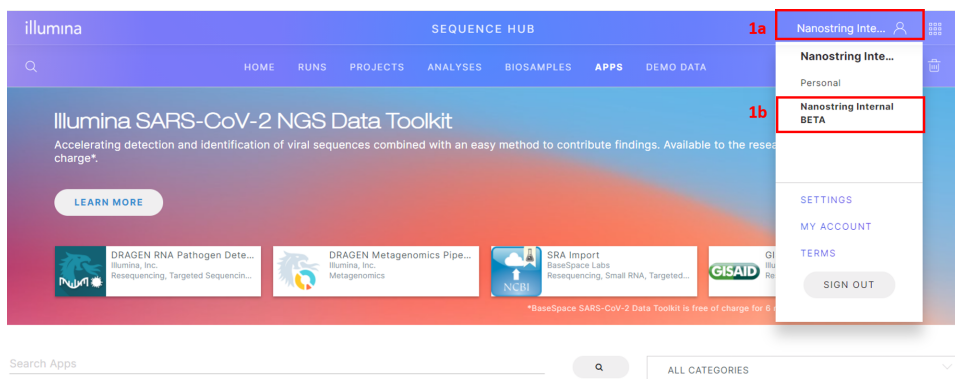

Figure 27: Select workgroup
1. Log into BaseSpace and select the correct workgroup (see Figure 27).